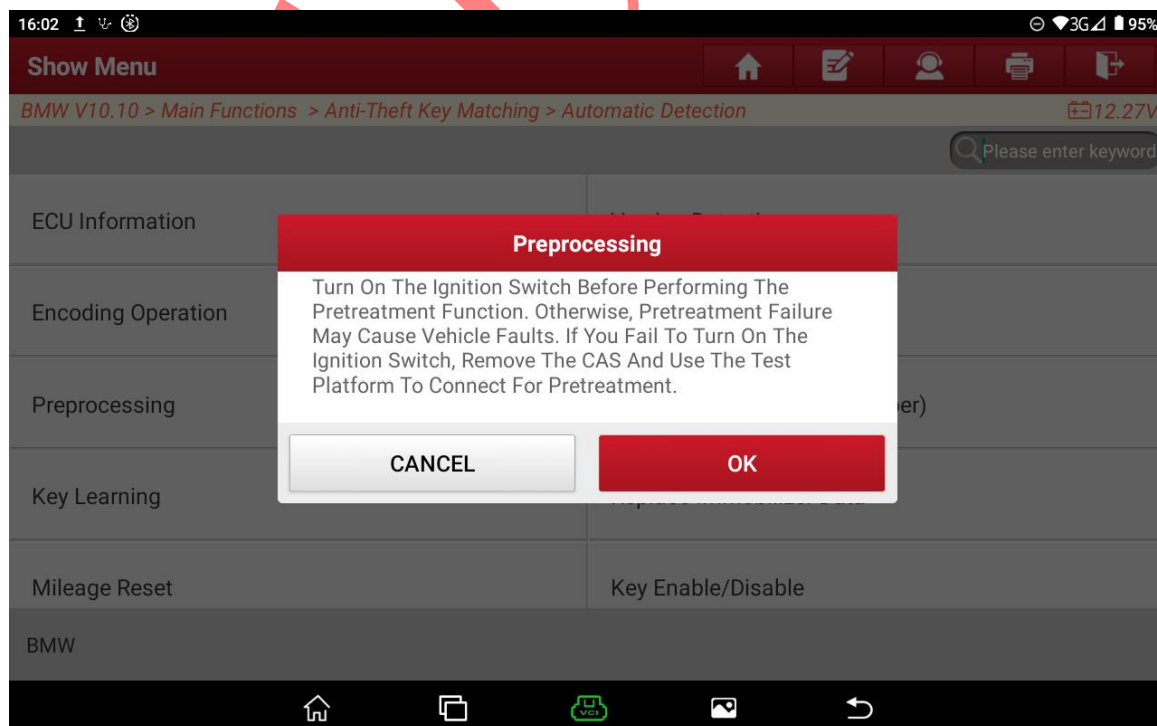

Figure 24
24. If preprocessing is carried out on the vehicle, the ignition switch needs to be turned on. If it is carried out on the platform, select “OK”, as shown in Figure 24